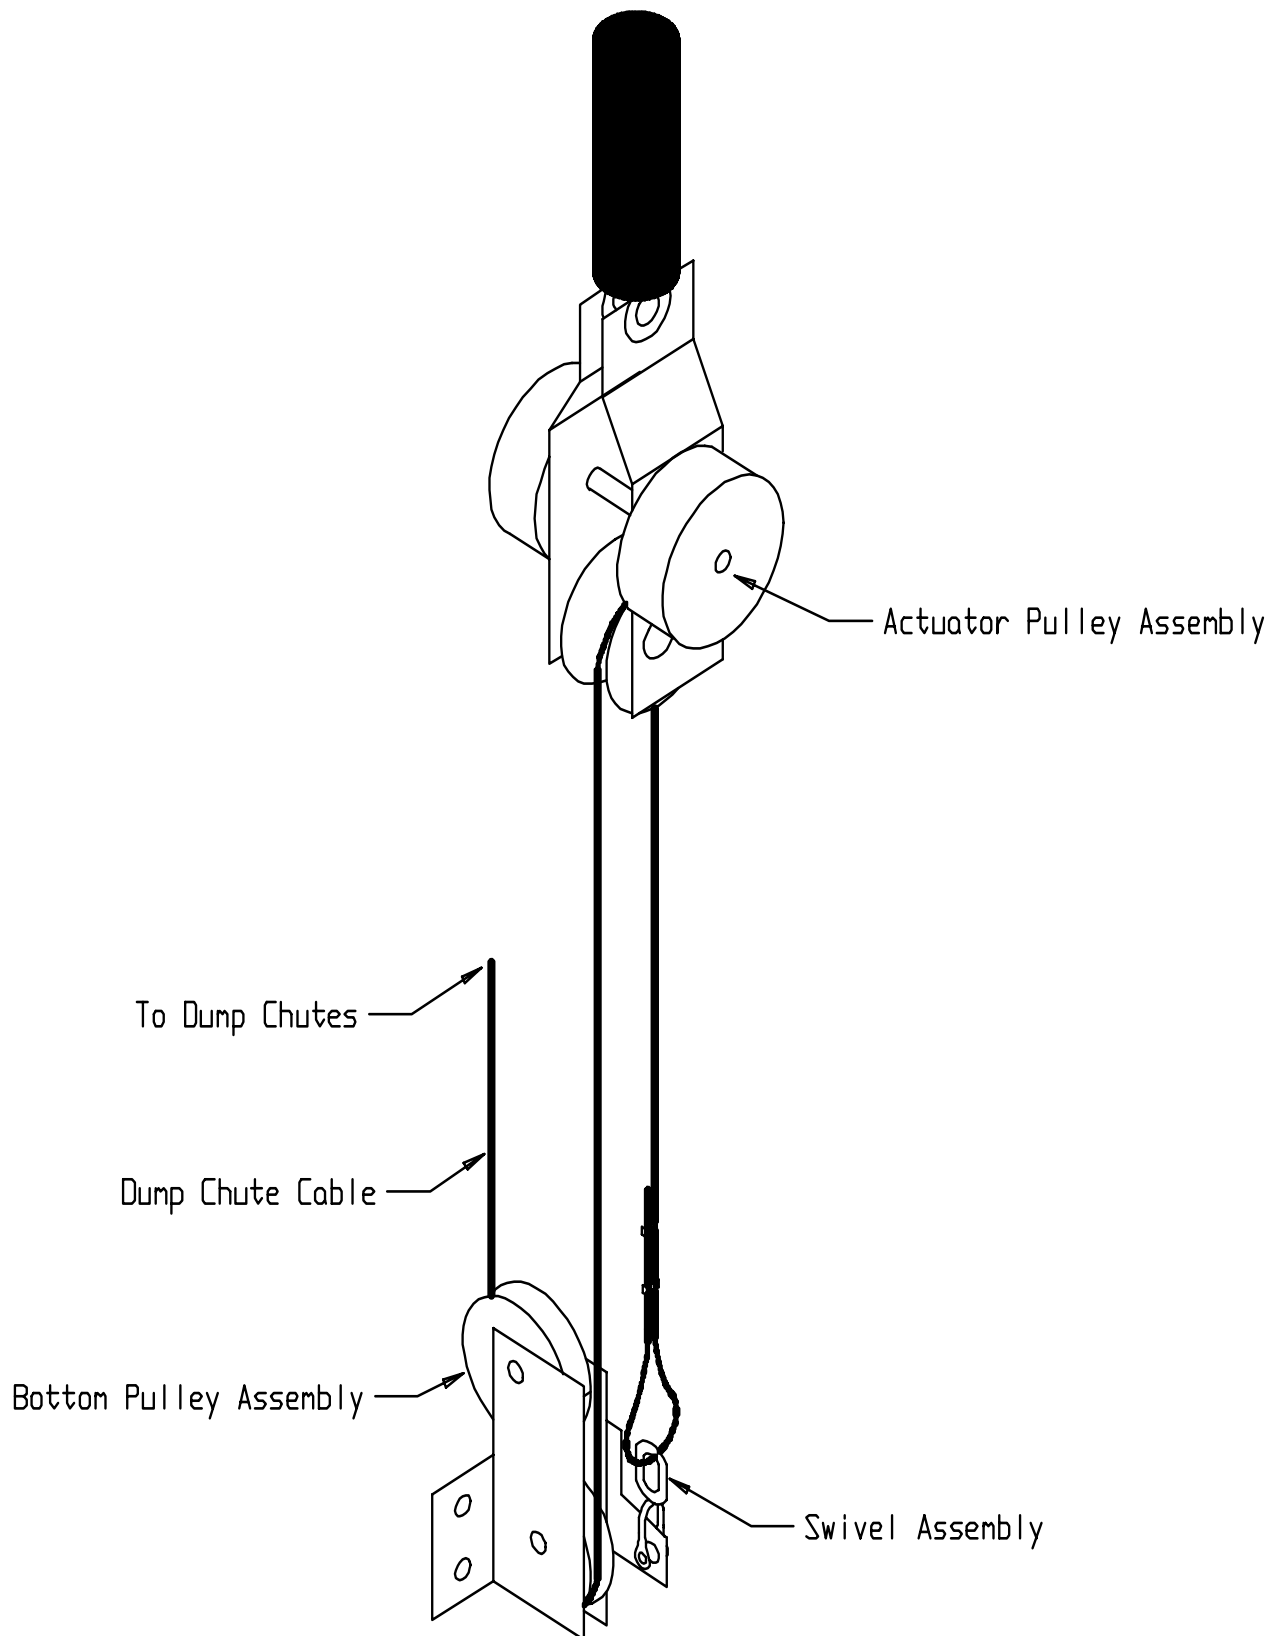

Figure 29
- 10) Route the cable as shown in figure 29.